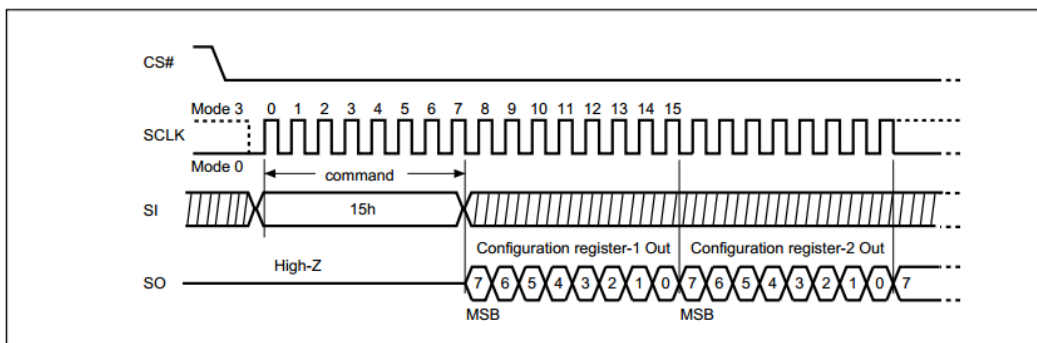

Fig 15-6 Read Configuration Register sequence (FlashClass6)
**Note 2:** For MXIC wide-range VCC, the Read Configuration Register would be checked whether the chip is in high performance mode by default once power-on, as Fig 15-6 shows. If not, we would switch it to high performance mode.